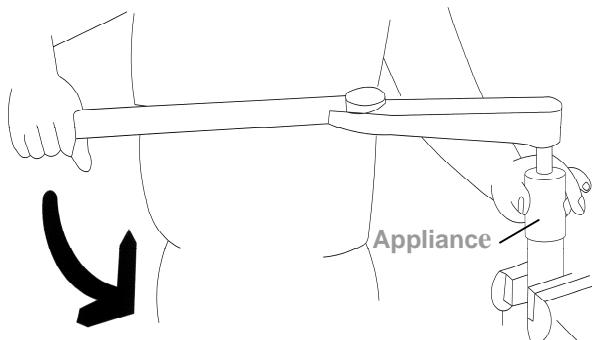

Fig. 199
**(3) Pulse Unit Disassembly:**
- ① Fix the pulse unit by a vise. Use the appliance (see Table 25) to loosen the lock nut on the pulse unit, Fig. 199.